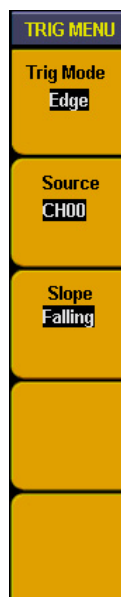

Fig.5-54: Edge trigger menu
1. **Edge trigger**: make a channel as trigger source and set rising edge, falling edge or either edge as trigger condition to generate trigger. Edge trigger menu refer to Fig.5-54.